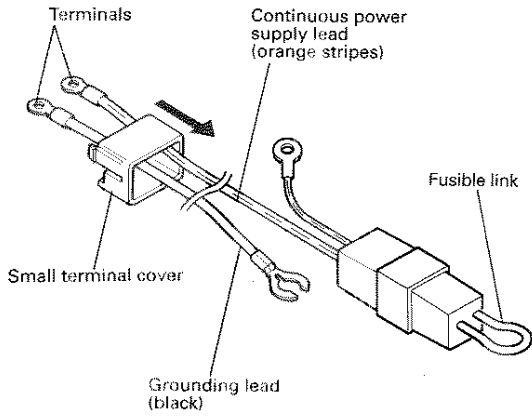

Fig. 4
1. Pass the continuous power supply lead (orange stripes) and the grounding lead (black) through the small terminal cover. (Fig. 4)